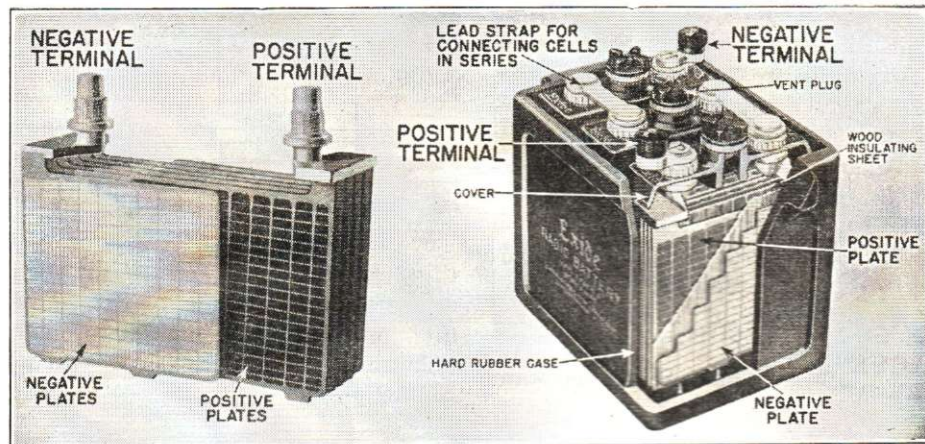

FIG. 22A. How the two groups of plates in a storage cell fit together. Insulating sheets prevent adjacent plate from touching.
**Construction.** A storage cell has two groups of plates, one group attached to the positive terminal and the other group attached to the negative terminal. These positive and negative groups of plates are made of lead (the metal, pronounced *LED*), and fit together alternately in the manner shown in Fig. 22A. Each plate has holes filled with the active chemical material of the cell, which is in paste form.